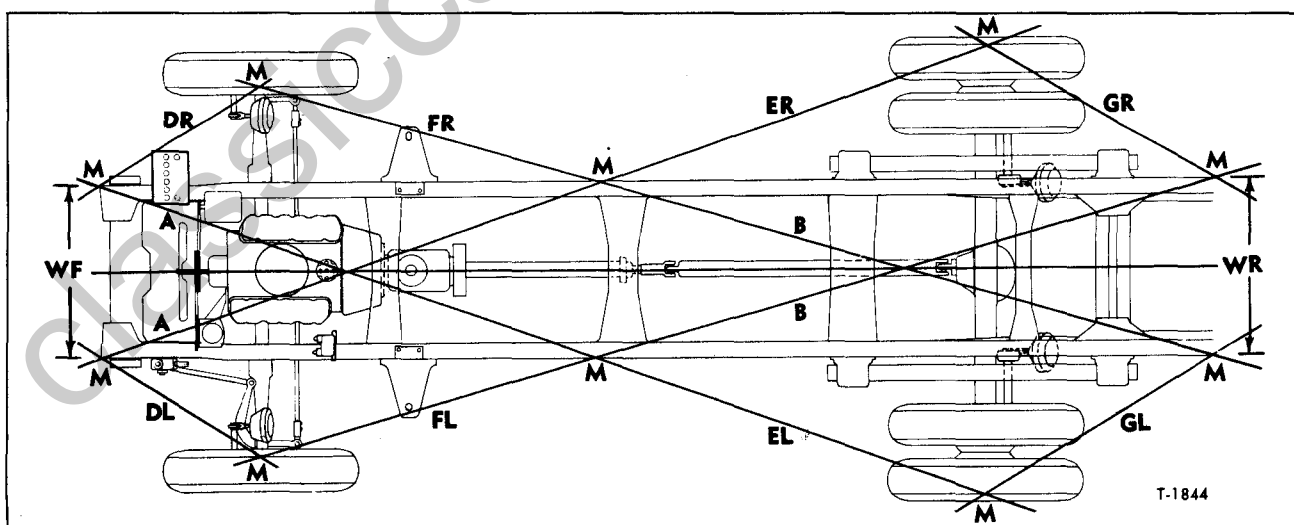

Figure 1—Typical Frame Alignment Points
Channel-type frame (fig. 1) construction with riveted crossmembers is used on all models. Frame side rails are usually of S.A.E. 1023 steel. On some vehicles, special heat-treated or S.A.E. 950 hi-tensile steel side rails may be used.
must be used on the right rail. The illustration (fig. 1) is used merely to serve as a guide in the selection of checking points "M."
NOTE: Key letters in the following text refer to figure 1.
5. After it has been determined that the frame is properly aligned, axle alignment with respect to the frame can be checked as directed below: (See fig. 1.)
b. Rear axle alignment with respect to the frame is correct if "ER" equals "EL" and "GR" equals "GL." NOTE: Alignment may appear to be off if rear ends of frame rails are not cut-off evenly when reducing cab to end of frame (CE) for specific operations.